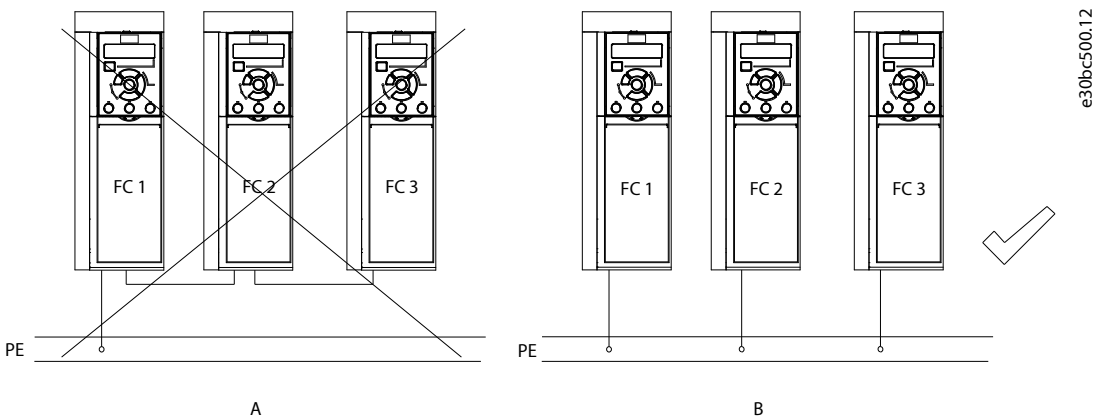

Figure 3: Grounding Principle
- Do not ground 1 drive to another in a “daisy chain” fashion (see Figure 3).